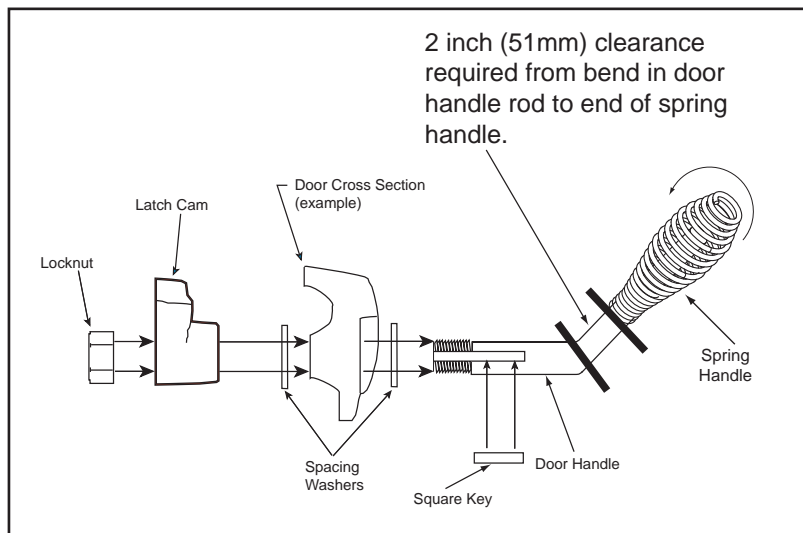

Figure 19.1
3. Install second washer(s) as shown in **Figure 19.1**.
7. Install spring handle turning in a counter-clockwise motion to **required** 2 inch (51mm) clearance location on door handle rod. **Figure 19.1**.